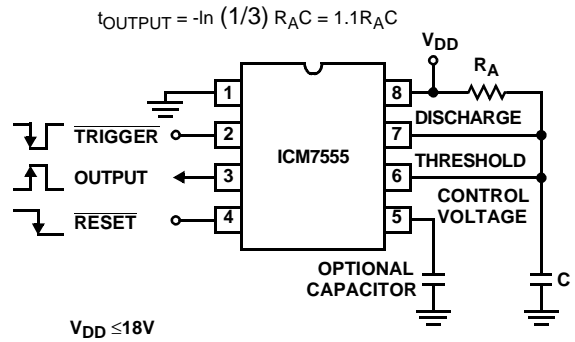

FIGURE 3. MONOSTABLE OPERATION
In this mode of operation, the timer functions as a one-shot, see Figure 3. Initially the external capacitor (C) is held discharged by a transistor inside the timer. Upon application of a negative TRIGGER pulse to pin 2, the internal flip-flop is set which releases the short circuit across the external capacitor and drives the OUTPUT high. The voltage across the capacitor now increases exponentially with a time constant $t = R_A C$. When the voltage across the capacitor equals $\frac{2}{3} V_{DD}$, the comparator resets the flip-flop, which in turn discharges the capacitor rapidly and also drives the OUTPUT to its low state. TRIGGER must return to a high state before the OUTPUT can return to a low state.